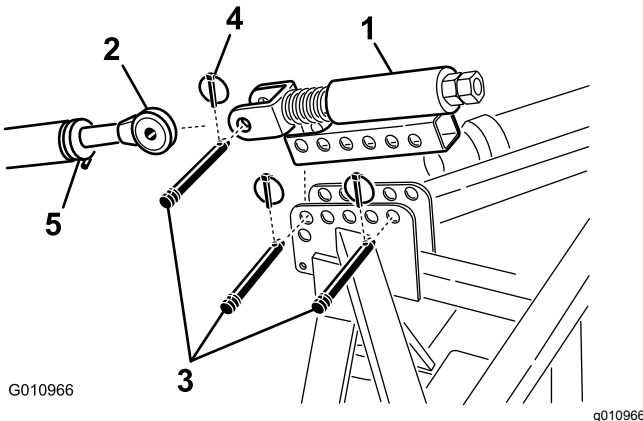

Figure 9
1. Mount the spring-loaded top link to the aerator bracket with 2 link pins and lynch pins (Figure 9)
2. Loosen the locknut on the tractor upper link. Adjust the upper link length until it aligns with the clevis on the spring-loaded top link of the aerator (Figure 9).
3. Connect the tractor upper link to the clevis on the spring-loaded top link and secure with a link pin and lynch pin (Figure 9).
6. Rotate the upper link until the spring is compressed by about 13 mm (1/2 inch) (Figure 9).